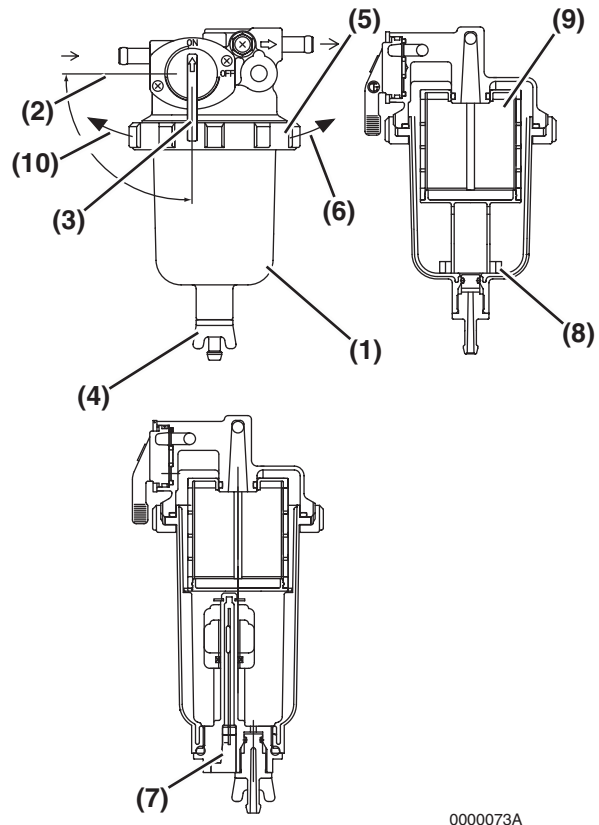

Figure 17
1. Position an approved container under the cup (**Figure 17, (1)**) of the fuel filter / water separator to collect the contaminants.
2. Close (**Figure 17, (2)**) the fuel cock (**Figure 17, (3)**).
3. Loosen the drain cock (**Figure 17, (4)**) and drain the contaminants. *See Drain Fuel Filter / Water Separator on page 80.*
4. Turn the retaining ring (**Figure 17, (5)**) to the left (**Figure 17, (10)**) and remove the cup (**Figure 17, (1)**). If equipped, disconnect the sensor wire (**Figure 17, (7)**) from the cup before removing the cup.
6. Remove the float ring (**Figure 17, (8)**) from the cup. Pour the contaminants into the container and dispose of it properly.
7. Clean the element (**Figure 17, (9)**) and inside cup. Replace the element if it is damaged.
11. Install the cup to the bracket by tightening the retaining ring to the right (**Figure 17, (6)**).